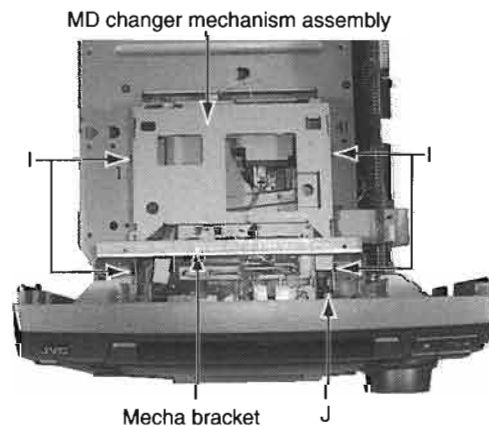

Fig 8
- 4.Remove four screws I and one screw J on the MD changer mechanism assembly. (See Fig.8)